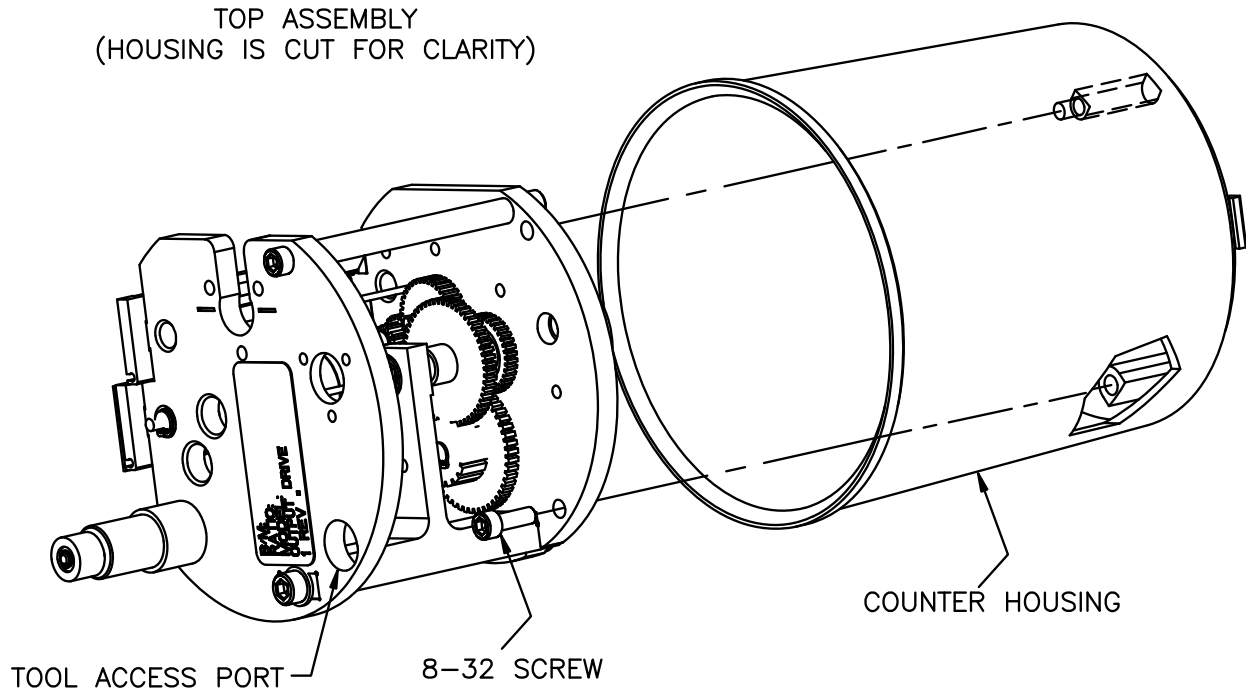

Figure 2
- Using a 9/64 Allen® wrench, use the tool access hole and loosen the #8-32 screw inside the accessory housing. Back it out until the screw threads are no longer engaged. **See Figure 2.**